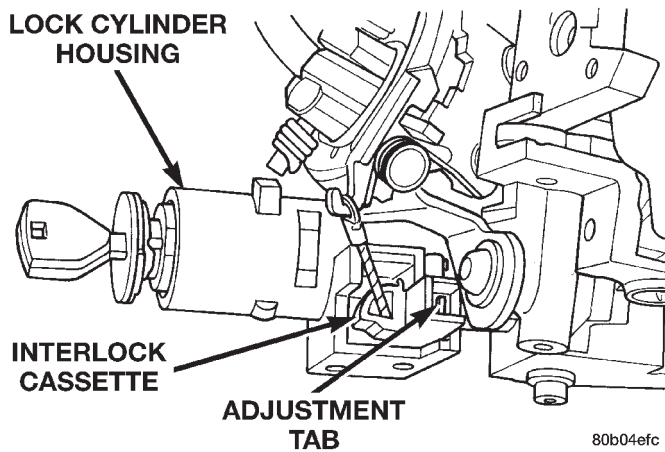

Fig. 29 Ignition Interlock Adjustment Tab-Column Shift
- (2) With the shifter in Park and the key removed, install the cable over the hook on locking arm of the shifter mechanism.
- (3) Slide the cassette into the housing until it locks in place.
- (4) To adjust the interlock system, push the adjustment tab in until it stops (Fig. 29). The adjustment tab will click as it moves into position. Ensure the tab is fully depressed.